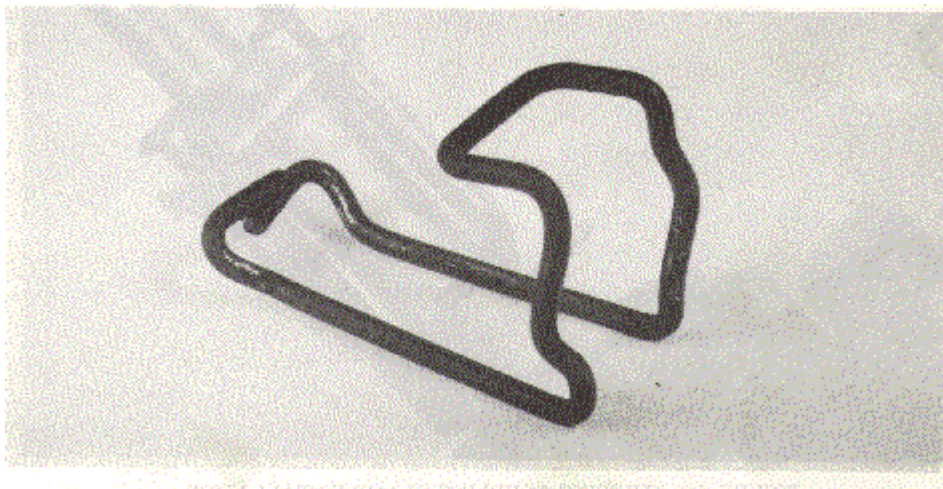

**FIGURE 2: STEERING COUPLING PARTIALLY ASSEMBLED**
6. Squeeze shoes together, compressing spring and push assembly into coupling body. (figure 2)